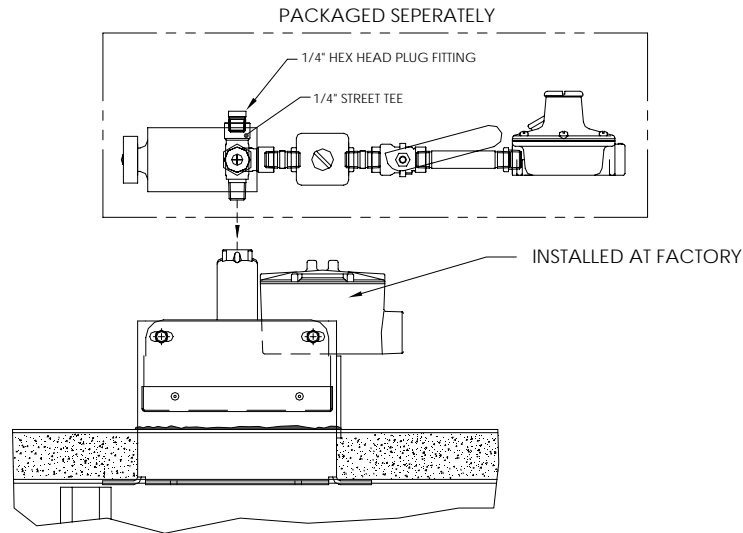

Figure 44 Catalytic Heater Option and Thermostat/Regulator Assembly
- 1) Locate the installed Catalytic Heater on the rear of the Cold Weather Enclosure (see Figure 44).